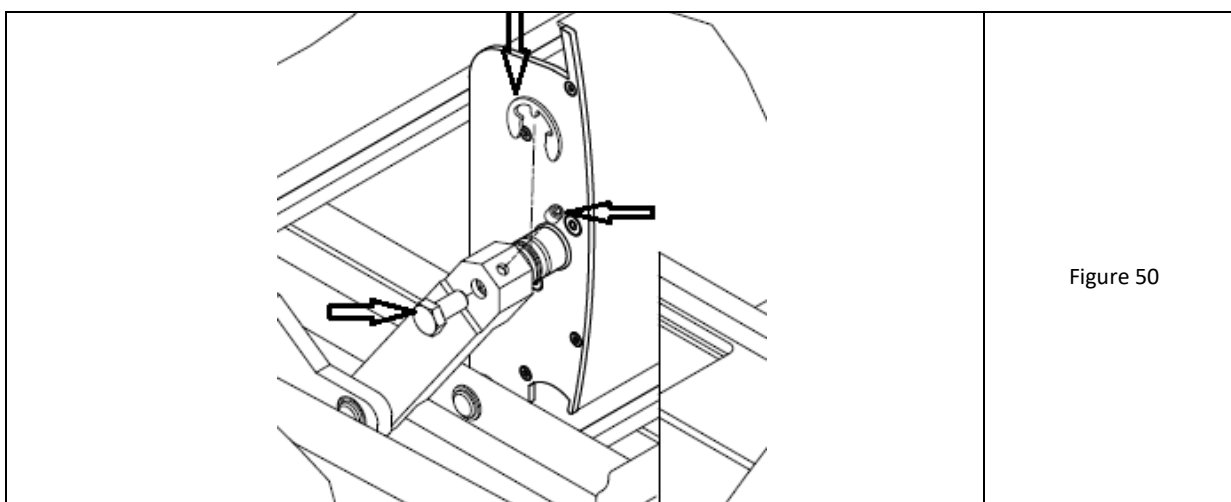

Figure 50
19. Set both blades upright and tighten the locks: - from the side of the arm into the shaft axis – hexagonal screw M8x16. Tightening torque 17Nm. At the upper end of the arm, screw in the threaded hole – a set screw M6x8 with an Allen socket. Tightening torque 7 Nm (fig. 50).